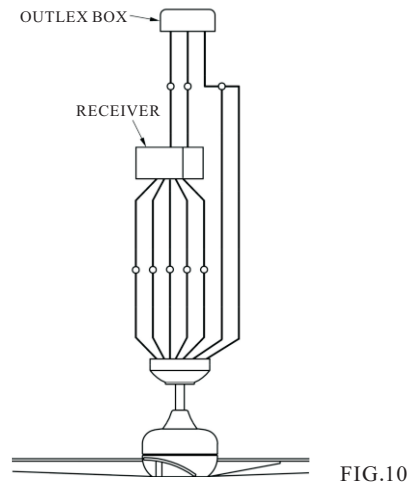

FIG.10
- Connect the red wire from receiver to the red wire from fan with wire nut. Connect the purple wire from receiver to the purple wire from fan with wire nut. Connect the blue wire from receiver to the blue wire from fan with wire nut. Connect the grey wire from receiver to the grey wire from fan with wire nut. Connect the white wire from receiver to the white wire from fan with wire nut. Connect the green or bare copper wire from outlet box to the green wires from receiver, hanger bracket and down rod ball with wire nut. (See fig. 10)